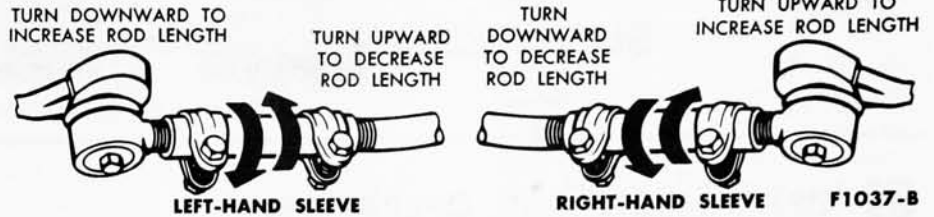

FIG. 5—Spindle Connecting Rod Adjustments
2. Adjust toe-in. If the steering wheel spokes are in their normal position, lengthen or shorten both rods equally to obtain correct toe-in (Fig. 5). If the steering wheel spokes are not in their normal position, make the necessary rod adjustments